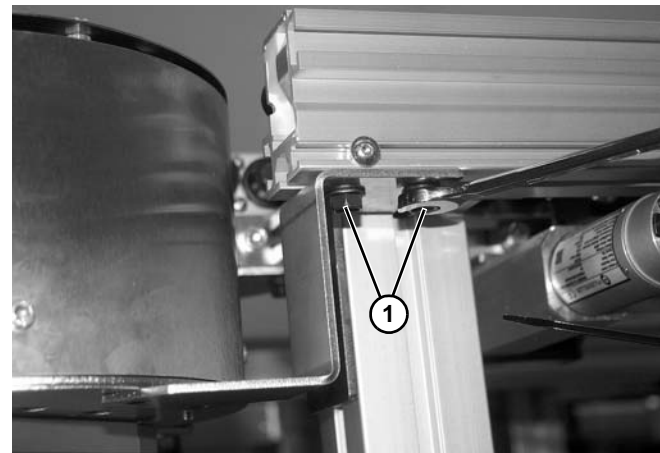

Figure 73
2. Tighten two screws (Figure 73, item 1).